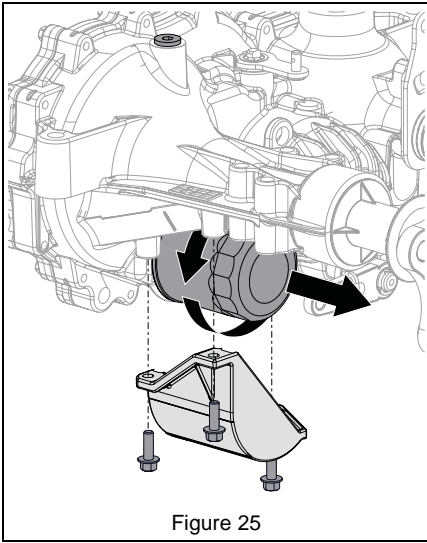

Figure 25
- b. Fill expansion tanks with 15W-50 synthetic motor oil (Gravely p/n 00057100) or equivalent until oil reaches the cold fill indicator mark. See Figure 25.
- See Figure 25.